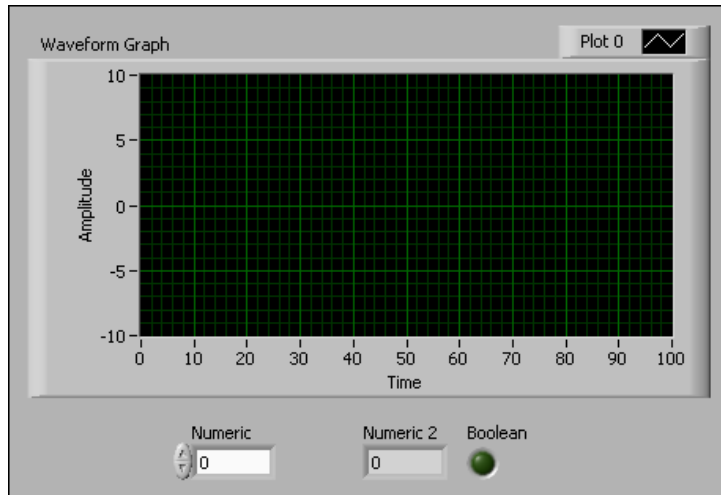

Figure 11. Creating a Front Panel
2. Place the following controls on the front panel window as shown in Figure 11.